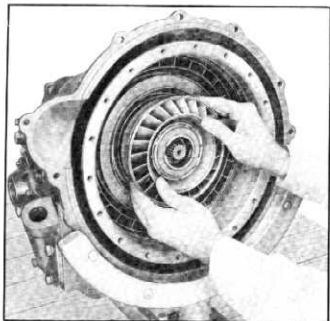

Fig. 66—Removing Stator Assembly
5. Remove the primary and secondary stator as a unit (fig. 66) and test rollers for slippage, rotating by hand. The overrunning clutch mechanism should allow rotation in one direction only.